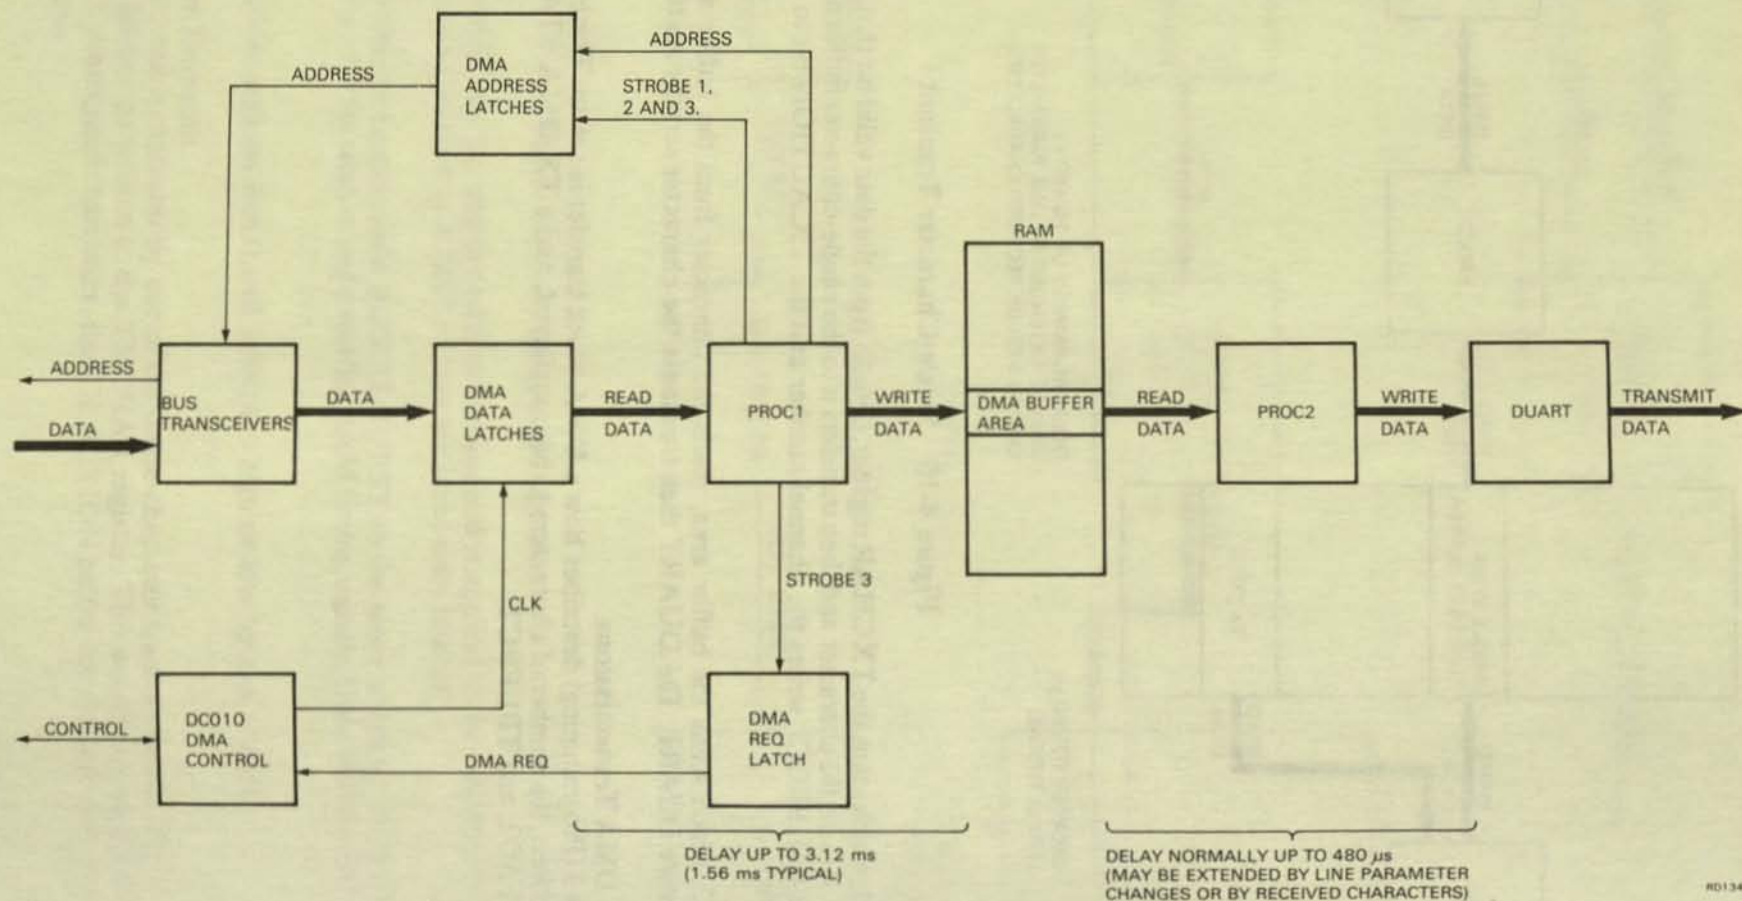

Figure 4-11 DMA Data Transfer
4.6.4.1 DMA Block Transmit – Figure 4-11 shows the data flow for a DMA transfer.